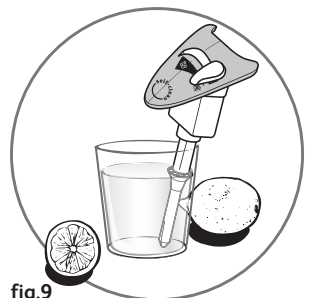

fig.9
- Soak the valve in a cup of white vinegar or plain lemon juice for 4 hours. (fig.9).